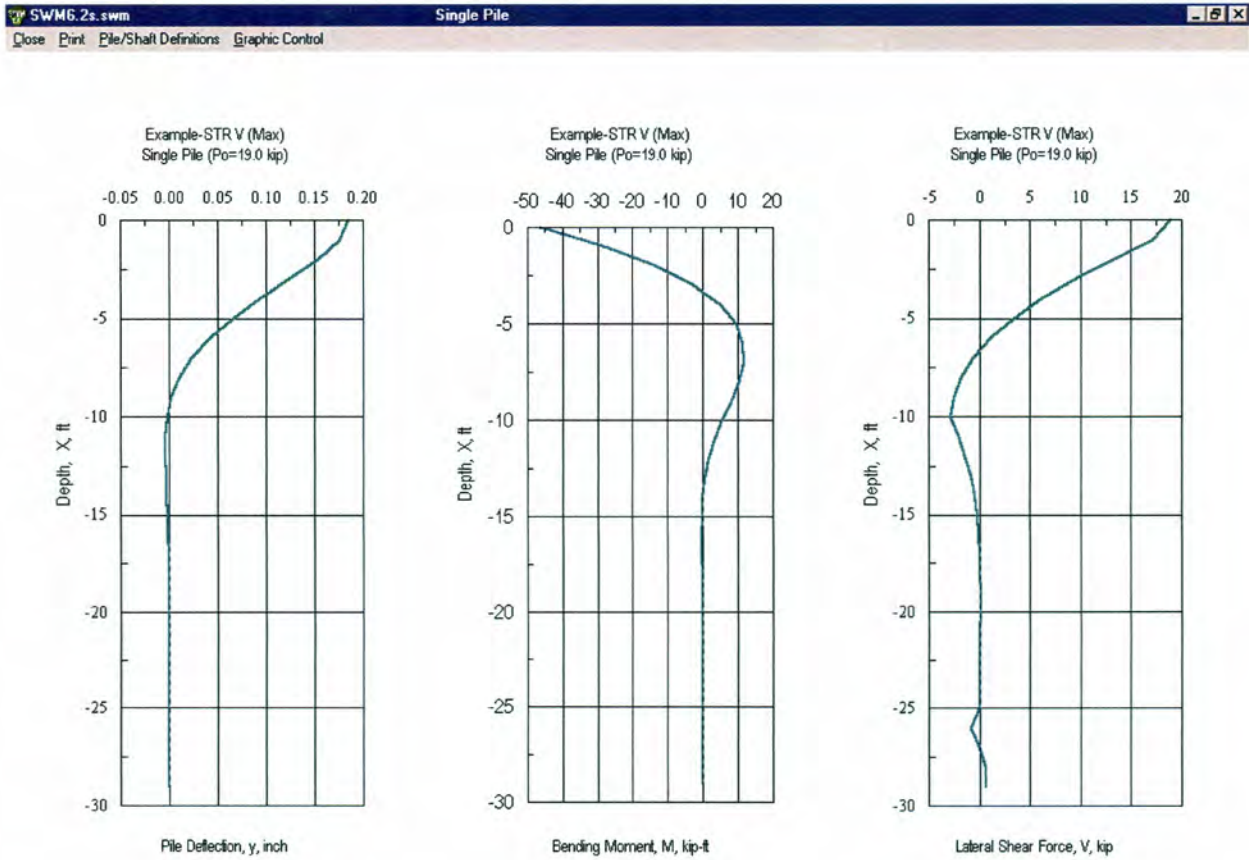

Fig. 20a Lateral Deflection, Moment and Shear Force along the Pile Length at the Given Loads
- Lateral Deflection, Bending Moment, and Shear Force [Fig. 20a]